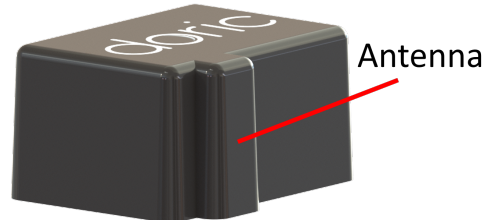

Figure 1.2: *Fiberless & Wireless Headstage*
The system uses a *Fiberless & Wireless Headstage* (Fig. 1.2) to transmit wireless data between the *Fi-Wi Opto-electric Cannula* and the *Electrophysiology Console*. This allows small animal subjects high mobility while performing optogenetic and electrophysiological recording experiments. The system can easily be integrated alongside other *Doric Lenses* products, including our *Behavior Tracking Camera*.
The *Fiberless & Wireless Headstage* (Fig. 1.2) is an electronic device that creates the link between the opto-electric cannula and the electrophysiology console. Its primary use is to record, amplify and digitize the electrophysiological signal. This is done using the **Intan RHD 2132** chip. Its secondary use is as an LED driver. It sends pulse sequences to the stimulation LED contained in the cannula. The headstage also contains a battery that powers the LED as well as all wireless transmissions. The headstage is secured to the cannula using a snap-on connector.
- The **Antenna** (Fig. 1.2) is a small ridge on the side of the headstage used to transmit wireless electrical signal.